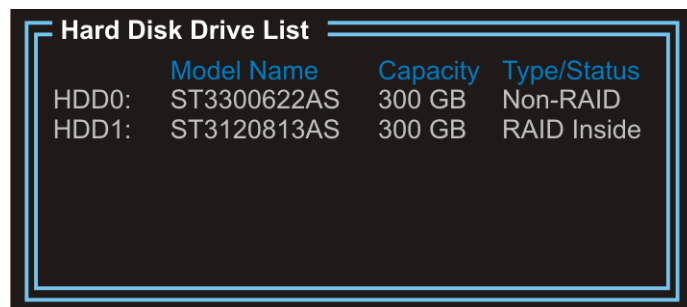

Figure D-16: Reverted HDD
Step 3: The reverted HDD is now listed as non-RAID (**Figure D-16**).